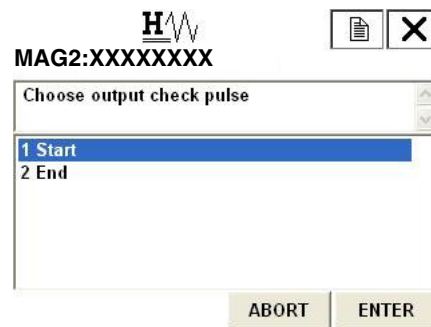

Figure 142.
2. Figure 142 then appears. Choose Start to start fixed value of pulse output, and then press F4 (ENTER).